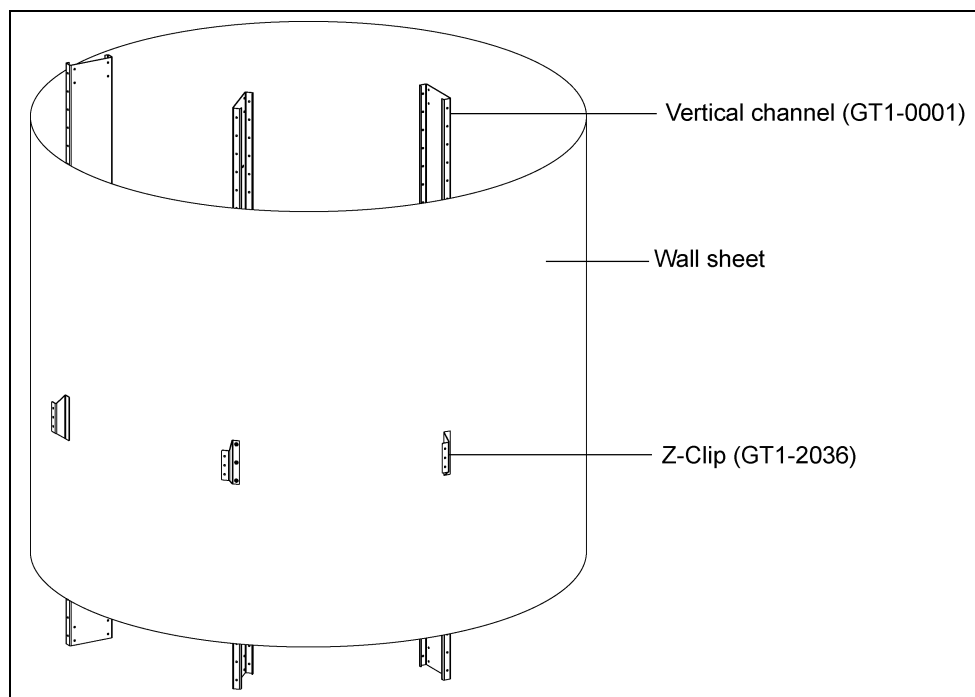

Figure 6A Offset Z-Clip Installation
1. Bolt Z-clips (GT1-2036) to vertical channels (GT1-0001). The Z-clip can be installed on each vertical channel as wall sheets are installed using 3/8"-16 x 1" JS grade 8 or grade 8.2 bolts (S-7485) and 3/8"-16 ZN grade 5 nuts (S-968). (See Figure 6A, Figure 6B below, Figure 6C and Figure 6D on Page 45.)